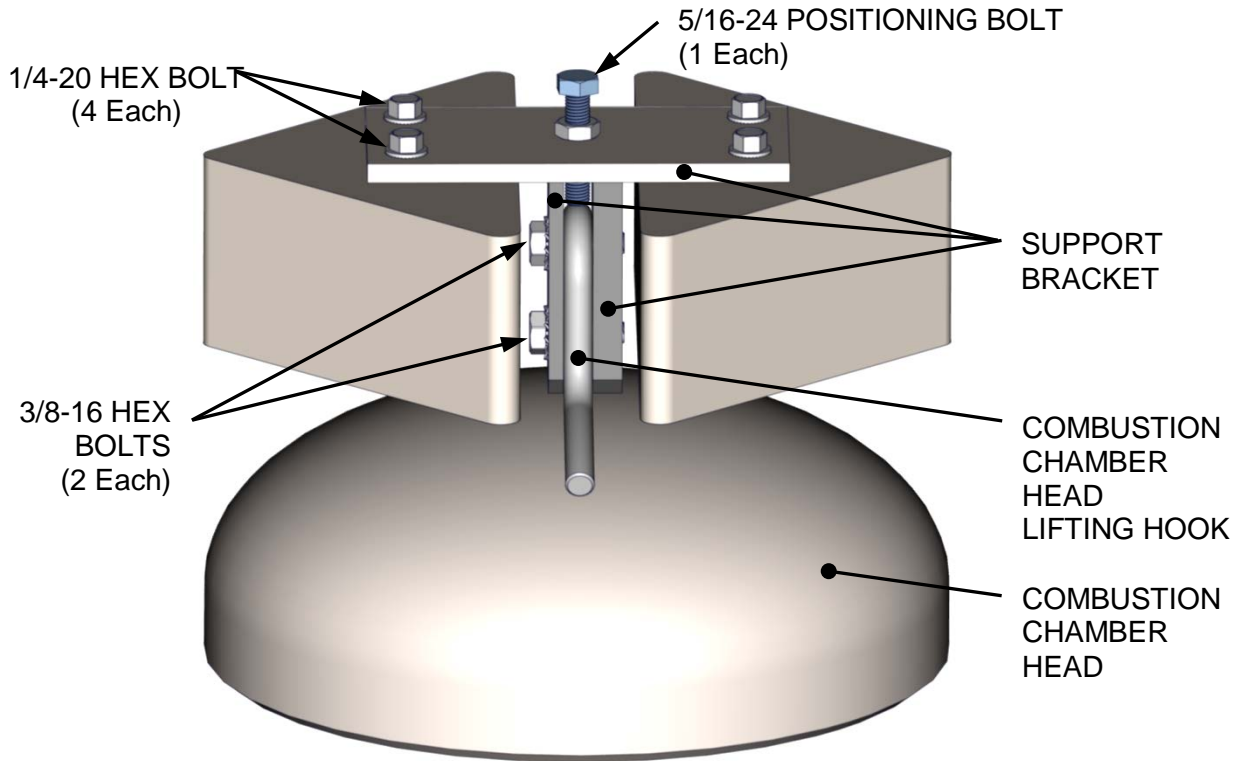

Figure 6-8. Anode Assembly and Combustion Chamber Head
If your inspection of the unit's anode blocks reveal that they have shrunk by more than 40% (original dimensions are 7 1/4" X 4"), refer to Figure 6-8 and complete the instructions below to install the Anode Replacement Kit (P/N 24430).
2. Referring to Figure 6-8, remove the four (4) 1/4–20 hex bolts holding the anode blocks to the anode mounting bracket, and then remove both old anode blocks.
3. Position the four (4) 'O' rings (P/N 88019) in the circular recesses around the threaded holes in the new anode blocks (P/N 44174). The 'O' rings keep water from entering the threaded holes, preventing them from corroding, which would shorten the anode's life.
4. Fasten one anode block to the mounting bracket with two (2) 1/4–20 hex flange seal bolts (P/N 54108) and fully tighten them. Note that these are specialized bolts, with built-in 'O' rings – **DO NOT substitute off-the-shelf bolts of the same size. DO NOT over-tighten these bolts.**